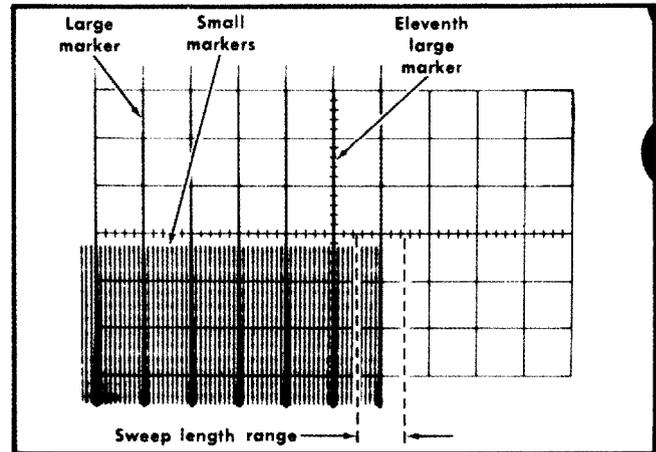

Fig. 6-43. Typical CRT display when checking A and B sweep length.
b. Move the eleventh large marker to the center vertical line with the horizontal POSITION control (see Fig. 6-43).
c. CHECK-B Sweep length must be between 10.5 and 11.5 divisions, as shown by 0.5 to 1.5 divisions of display to the right of the center vertical line (see Fig. 6-43). Large markers indicate divisions and small markers indicate 0.1 division.
- c. Move the eleventh marker to the center vertical line with the horizontal POSITION control (see Fig. 6-43).